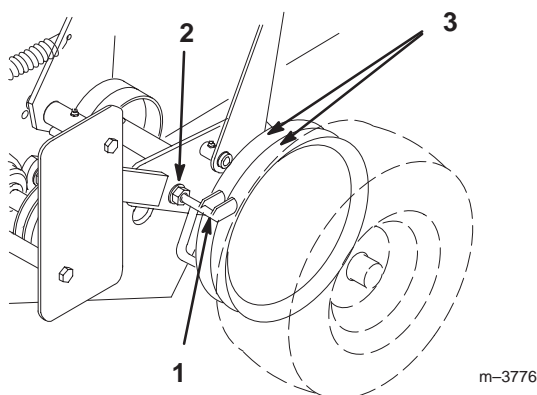

Figure 50
1. Loosen the locknut holding scraper to the engine frame (Fig. 50).
2. Rotate scraper until they align with center of pulley grooves (Fig. 50).
3. Tighten the locknut (Fig. 50).